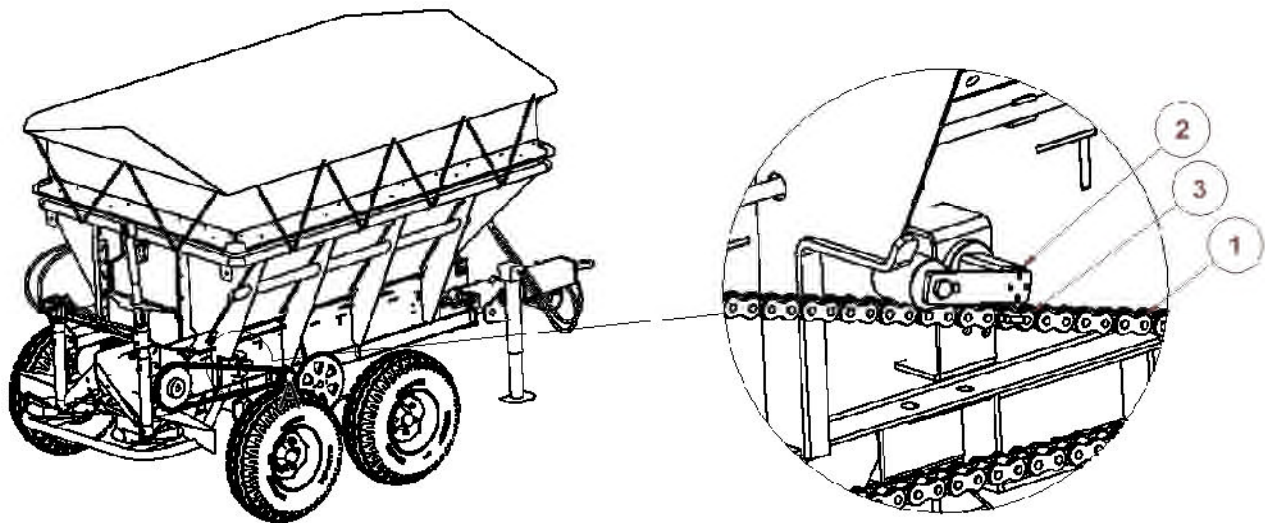

Figure 6 – Chain Tensioner
- Chain tension (1) is maintained by a tension roller (2) (Fig 6).
- The ends of the chain are connected using a chain joining link (3) (Fig 6). Remove for chain service.